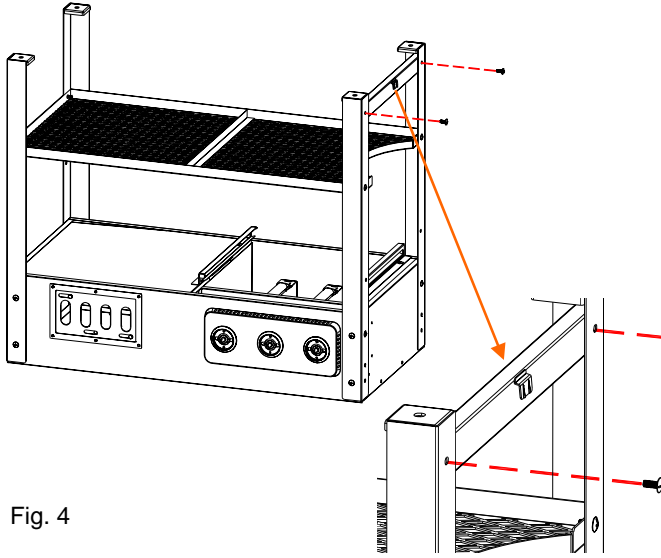

Fig. 4
*Locate:* The tubular Support Brace, (2) M6x15 bolts
Refer to Fig. 4 and attach the Support Brace to the INSIDE of the Left Side Front and Rear Legs using (1) M6x15 bolt at each end of the Brace